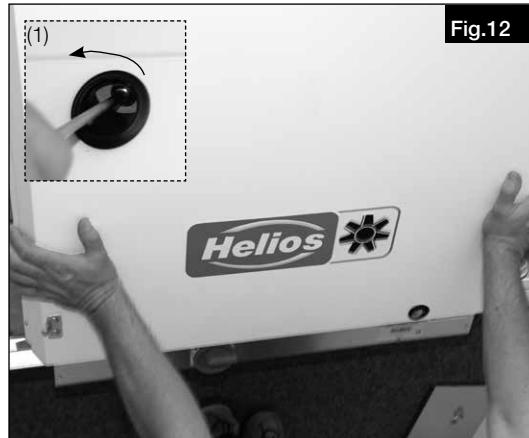

Fig.12
1. Loosen screws (1) in the unit cover, support cover when doing so and remove cover downwards (Fig.12)